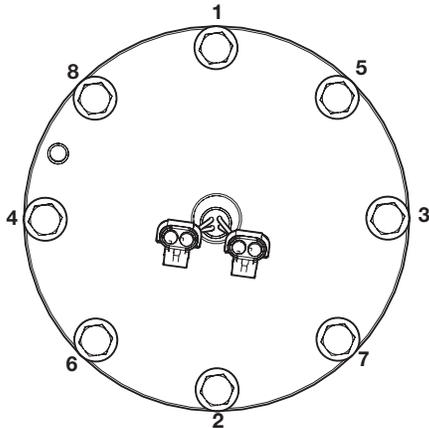

Figure 20 Tank Access Cover Bolt Removal/Torquing Pattern
5. Torque in a cross pattern to an initial torque of 3 Nm (26.5 in-lb). Refer to Figure 20 for the correct torquing pattern.
6. Torque in a cross pattern to a final torque of 40.6 Nm (30 ft-lb). Refer to Figure 20 for the correct torquing pattern.